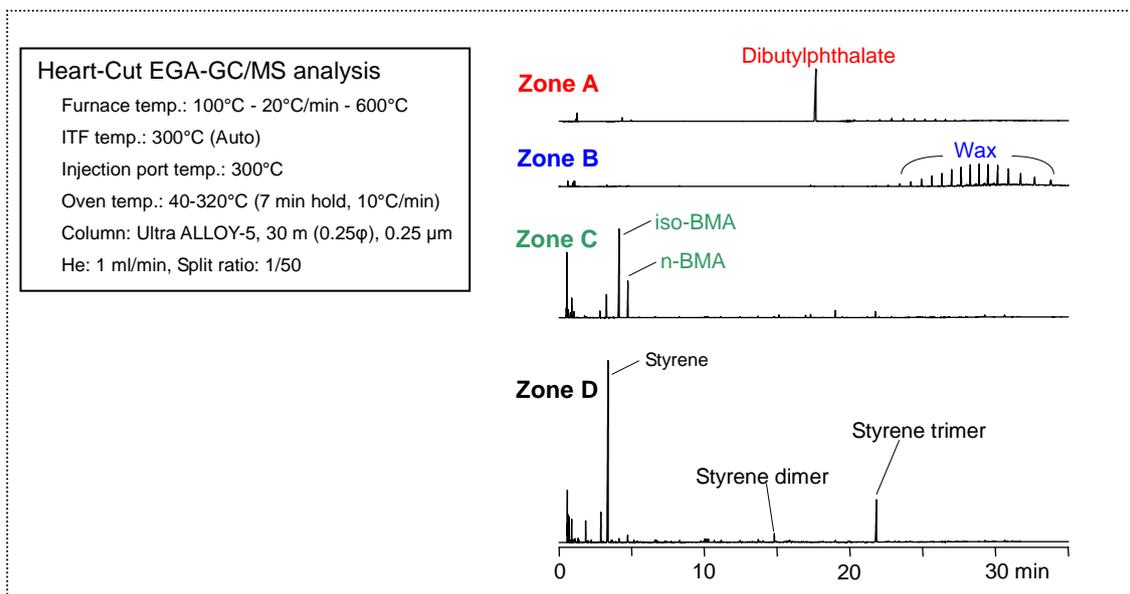

Fig. 5.11 Chromatograms of four zones
STEP2 Setting analytical conditions for pyrolyzer and GC (see Fig. 5.11)
- (1) Set ITF TEMP to "Auto" mode.
- (2) Set the furnace temperature and others in "Heart-Cut EGA Analysis" screen.
The chromatograms of evolved gases from each temperature zone obtained by GC/MS are shown in Fig. 5.11. As shown here, detailed analysis of evolved gases can be accomplished by analyzing each temperature zone of EGA thermogram.